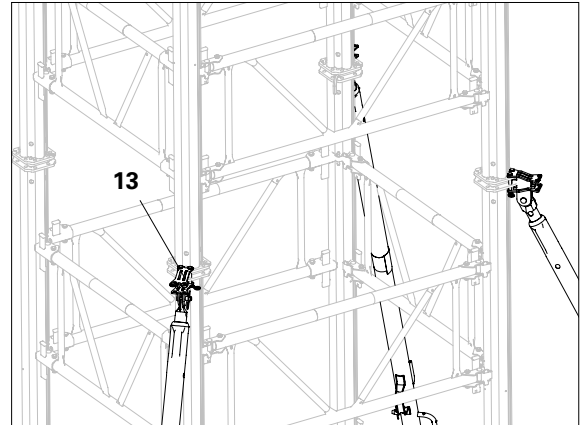

Fig. A5.02a
1. Fix Brace Connector MPR (13) to prop joint. (Fig. A5.02a)